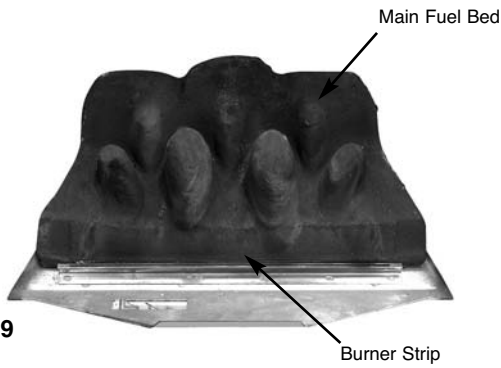

Fig. 39
1. Place the main fuel bed on to the middle section of the metal burner tray. It is important that the front edge of the fuel bed is located behind the burner strip (Fig. 39).